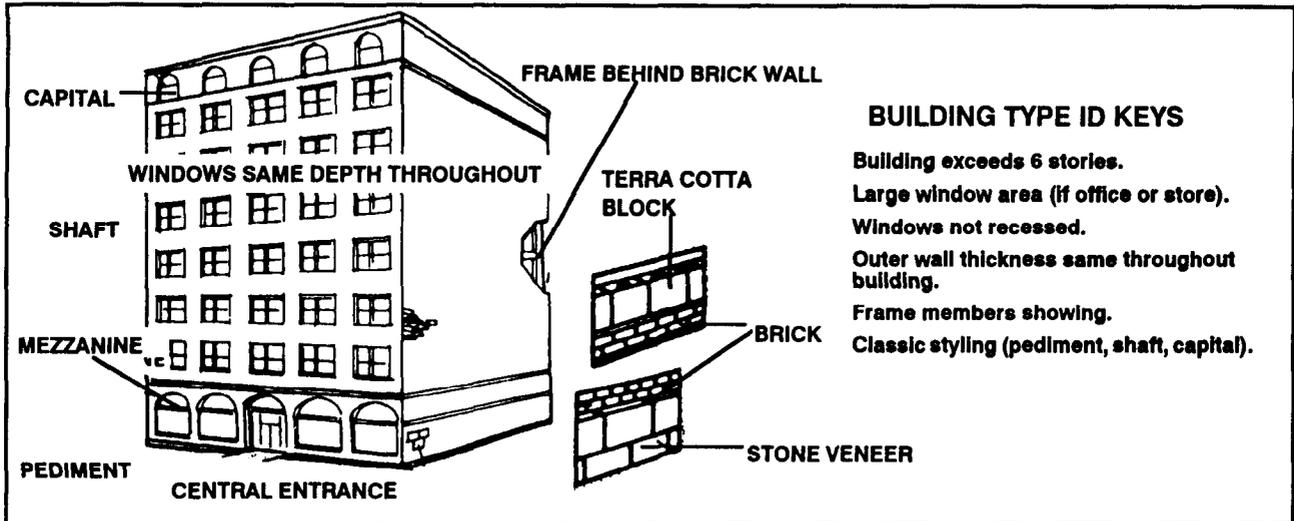

Figure H-8. Heavy-clad framed building.
a. Heavy-clad buildings were common when framed buildings were first introduced. Their walls are made of brick and block that are sometimes almost as thick as frameless brick walls, although not as protective. Heavy-clad framed buildings are found in core and core periphery areas. They can be recognized by a classic style or architecture in which each building is designed with three sections—the pediment, shaft, and capital. Unlike the brick building, the walls are the same thickness on all floors, and the windows are set at the same depth throughout. Often the frame members (the columns) can be seen, especially at the ground floor. The cladding, consisting of layers of terra cotta blocks, brick, and stone veneer, does not provide as good a cover as the walls of brick buildings. It protects against small-arms fire and light shrapnel but does not provide much cover against heavy weapons (Figure H-8, page H-6).